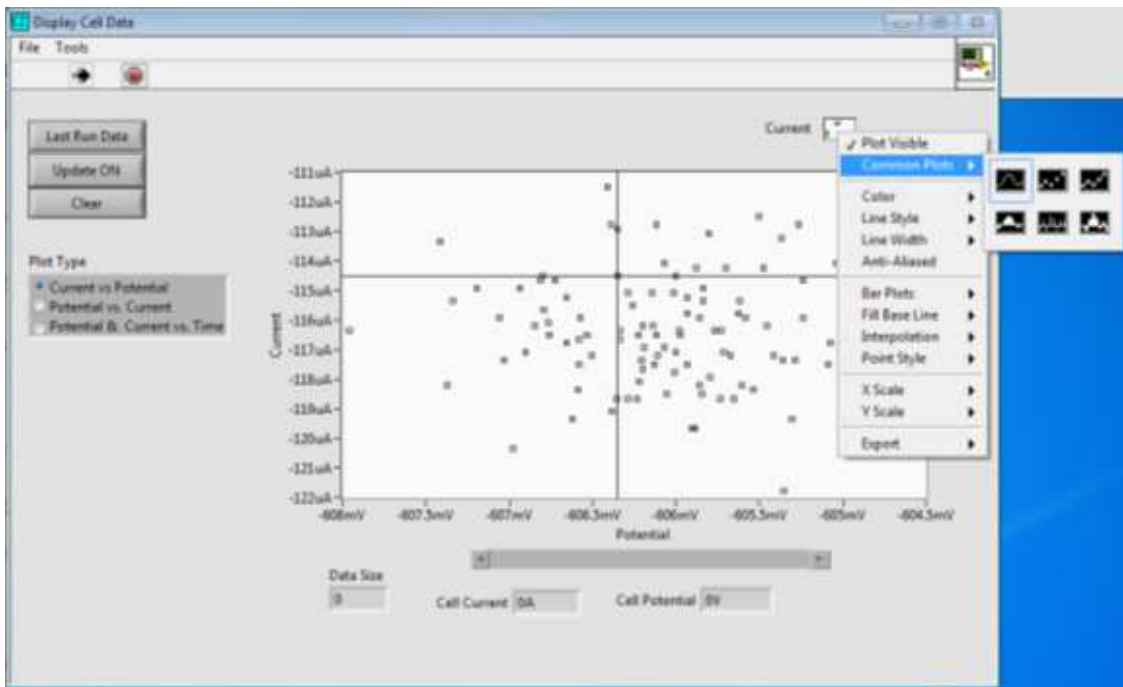

Figure 29. Data display style and axes change
- To change the style of the graph, click the style image at the top right of the window. Hover over *Common Plots* and select the desired style. The axes can also be changed to any of the options listed on the left of the window (Fig. 29).